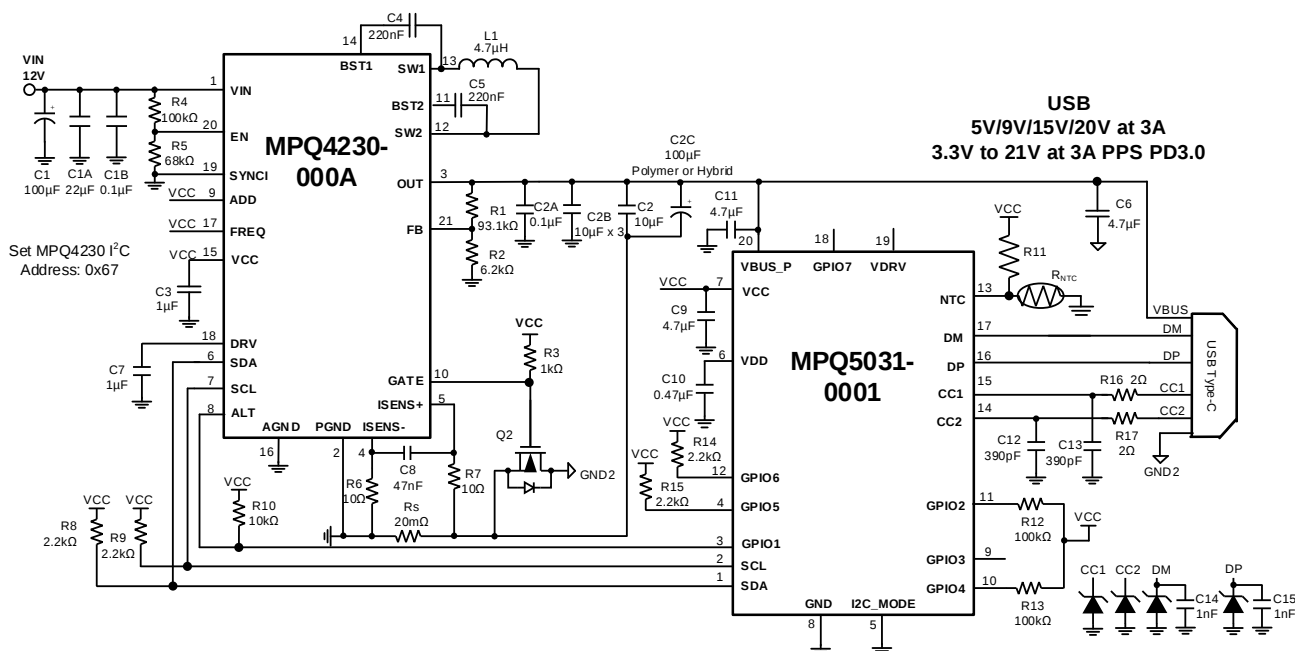

Figure 20: MPQ4230 + MPQ5031 for 60W PD Application (12)
11) The recommended layout is based on Figure 20 on page 41.